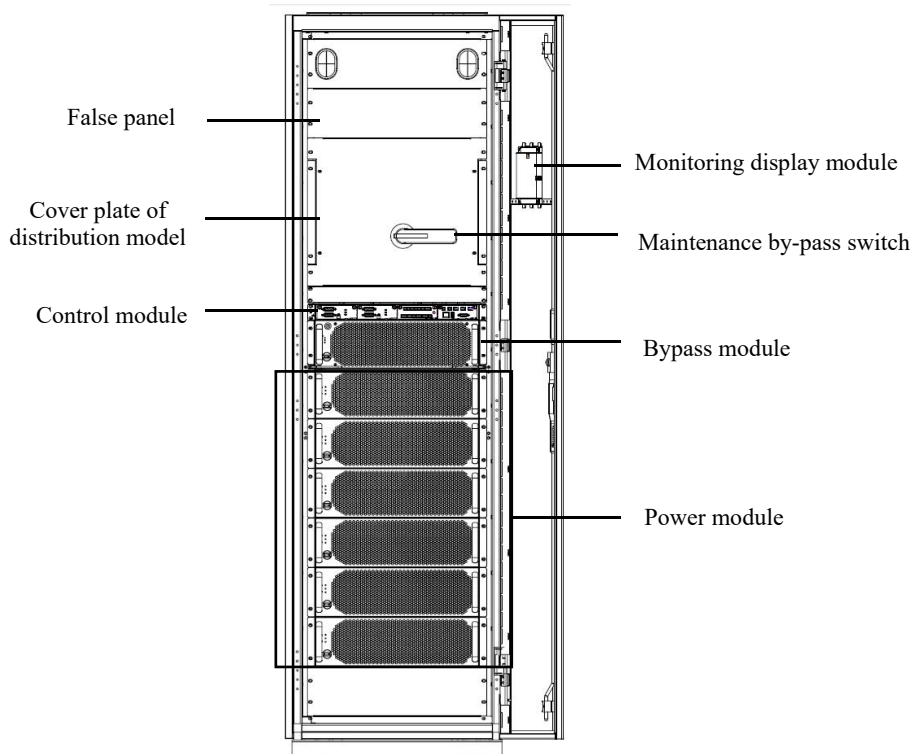

Fig. 1-6 Structure of 300kVA (top cable inlet)
3) The structure of 300kVA UPS (top cable inlet) is shown in Fig. 1-6 in which the front door of the UPS is opened.